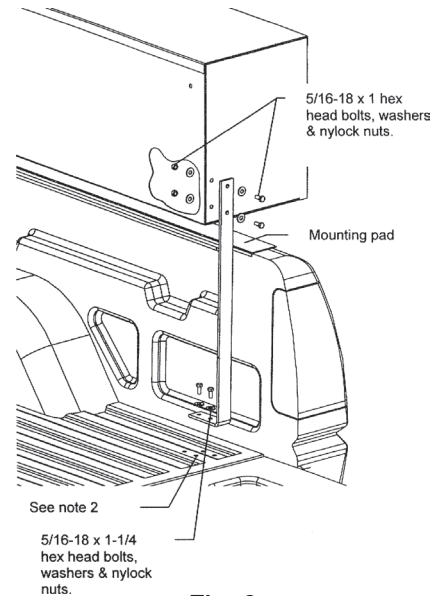

Fig. 2
3. Place the mounting pad in position on the top of the truck fender as shown in Figure 2. You may want to tape the pad to the fender to keep it from moving during installation.